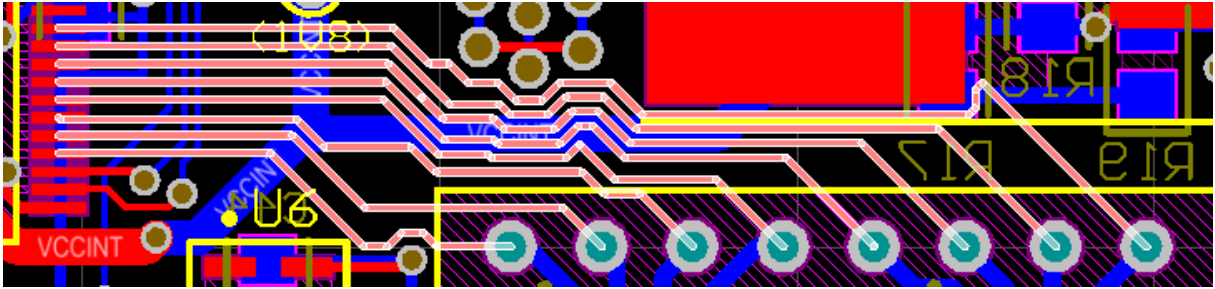

Figure 6. Results of pressing Tab to extend selection
10. With all of the tracks selected (as shown in the Figure 6 above) execute the Glossing Feature **Route » Gloss Selected** or **CTRL + ALT + G**.